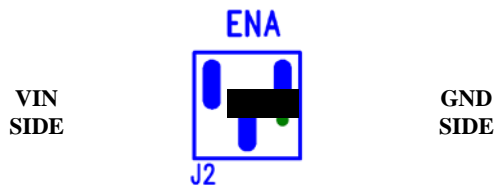

Figure 2: J2 allows control of the Enable pin.
**STEP 1:** Set the “ENA” jumper to the Disable Position. See Figure 2 above.